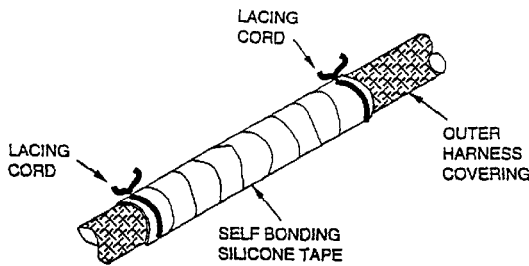

Figure 32. Securing Overbraid Tape
- m. Secure ends of tape with lacing cord (Figure 32).